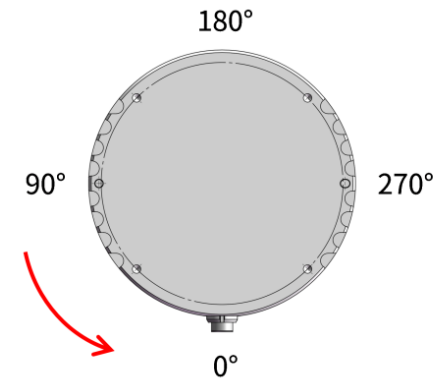
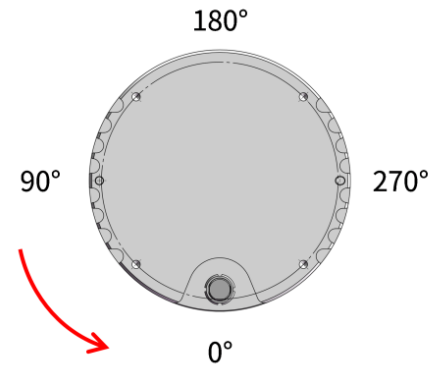

Figure 3. Lidar azimuthal position (bottom view)
Figure 5. Lidar azimuthal position (bottom view)
- Lidar azimuthal position is defined in Figure 3. Lidar azimuthal position \(bottom view\) and Figure 5. Lidar azimuthal position \(bottom view\). Y-axis corresponds to 0°.